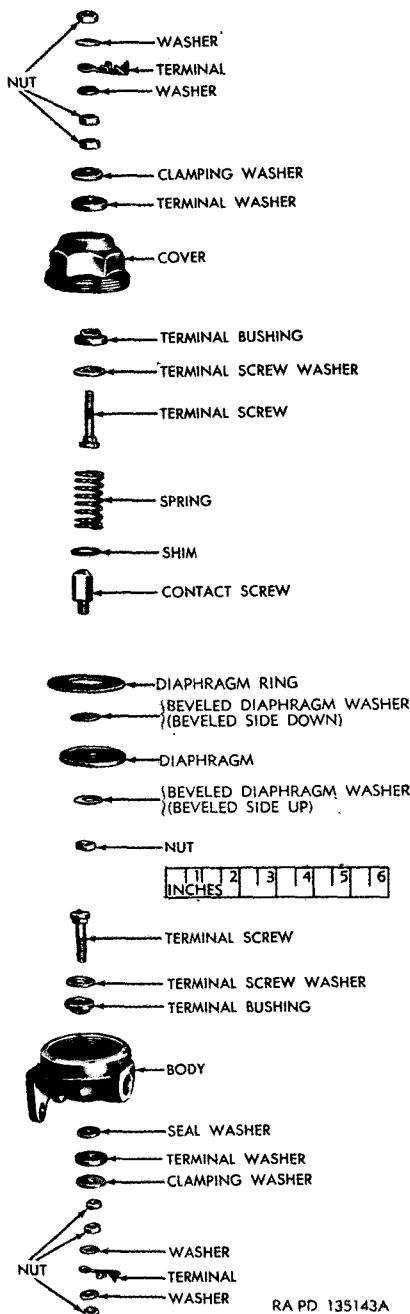

Figure 222. Type LP-1 low pressure warning switch—exploded view.
(figs. 222 and 223)
- (1) *Type LP-1* (fig. 222). Select terminal screw without contact point and position special flat terminal screw washer and fiber